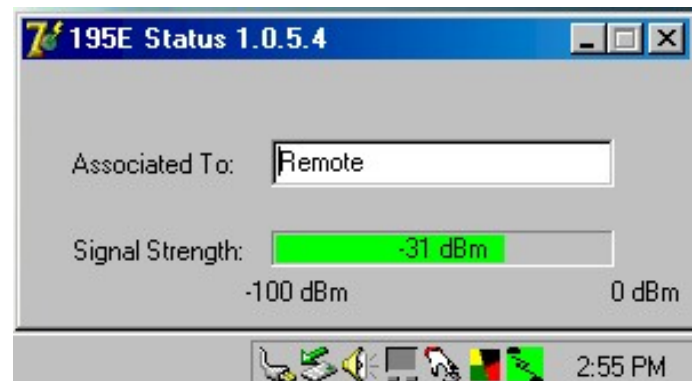

Figure 8: EtherStation Status Program
4. Connect the Model 195Ea to your computer either directly to the Ethernet card or through a Switch using a CAT-5e Ethernet cable. The Ethernet port on the 195Ea supports Auto-Negotiation so either a patch cable or crossover cable will work. Open the ESTeem Status Program. Status icons will appear in your system tray (Figure 8). When the status menu is opened from the system tray, the status window will be displayed (Figure 8) to show the Access Point MAC address and signal strength. The tray icon and Signal Strength bar will display the colors from Green, Yellow to Red on progressively poorer signal or will show Grey if roaming.